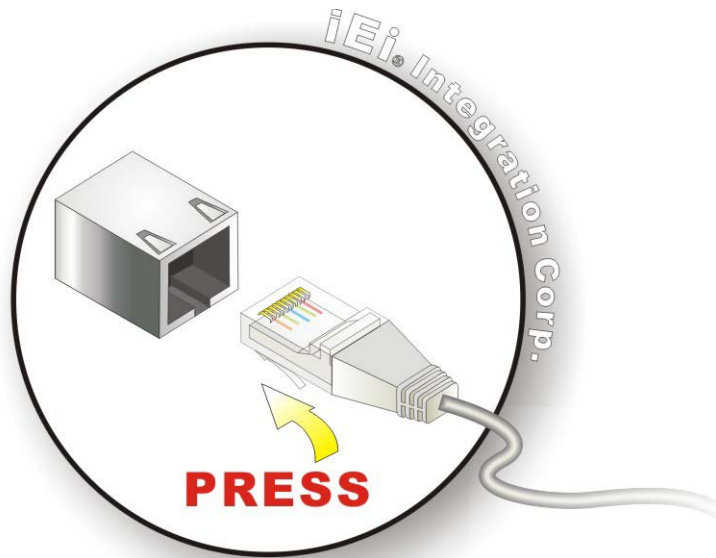

Figure 3-15: LAN Connection
- Step 2:** **Align the connectors.** Align the RJ-45 connector on the LAN cable with one of the RJ-45 connectors on the TANK-6000-C226. See **Figure 3-15**.